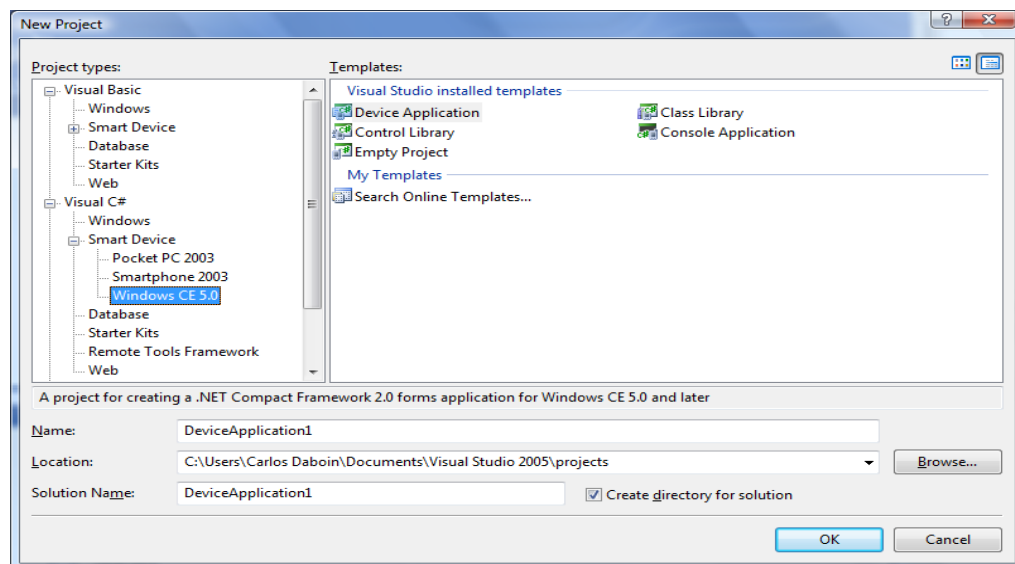

Figure 57. New Project Window
1. From Visual Studio 2005 IDE, Select File => New => Project, the following new project screen will appear as shown in figure 57.
2. Expand Visual C# and Smart Device folders, to select Windows CE 5.0 as shown in figure 57.
3. Then, select => Device Application, and enter Your Application Name as the project name as shown in figure 57.